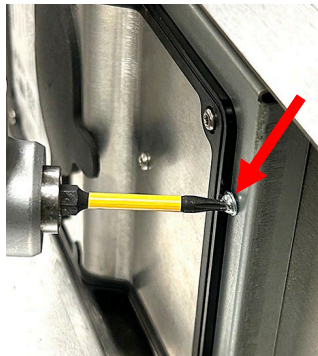

Figure 17
19. Using the eight (8) supplied screws, attach the metal frame to the controller with a #10 torx driver (see Figure 17). Torque carefully to 11-13 lbs to avoid breaking plastic of the controller. **DO NOT OVERTIGHTEN the screws.**